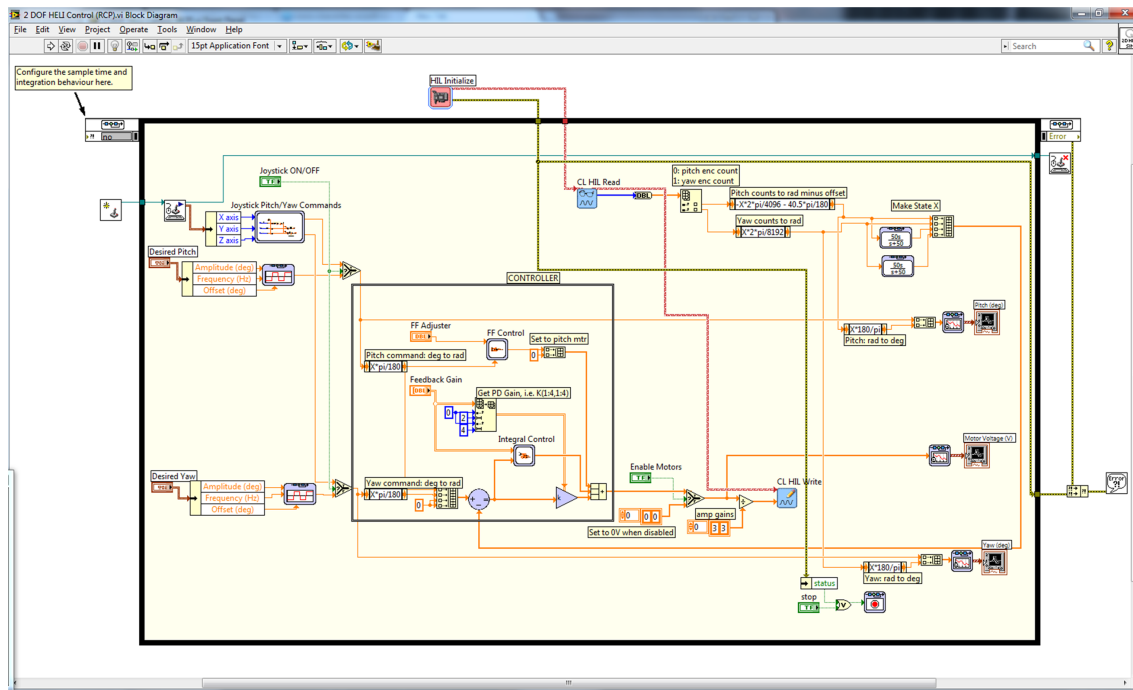

Figure 5.12: Block diagram used to run the closed-loop controller on the 2 DOF Helicopter
- Open the *2D HELI Control* VI (or the *2D HELI Control (cRIO)* VI for cRIO users) block diagram (shortcut CTRL+E) shown in Figure 5.12. It contains the RCP controls that interface with the hardware of the actual plant. The Sim HIL Write Analog control outputs the voltage computed by the controller to the DAQ board and the Sim HIL Read Encoder control reads the encoder measurements.